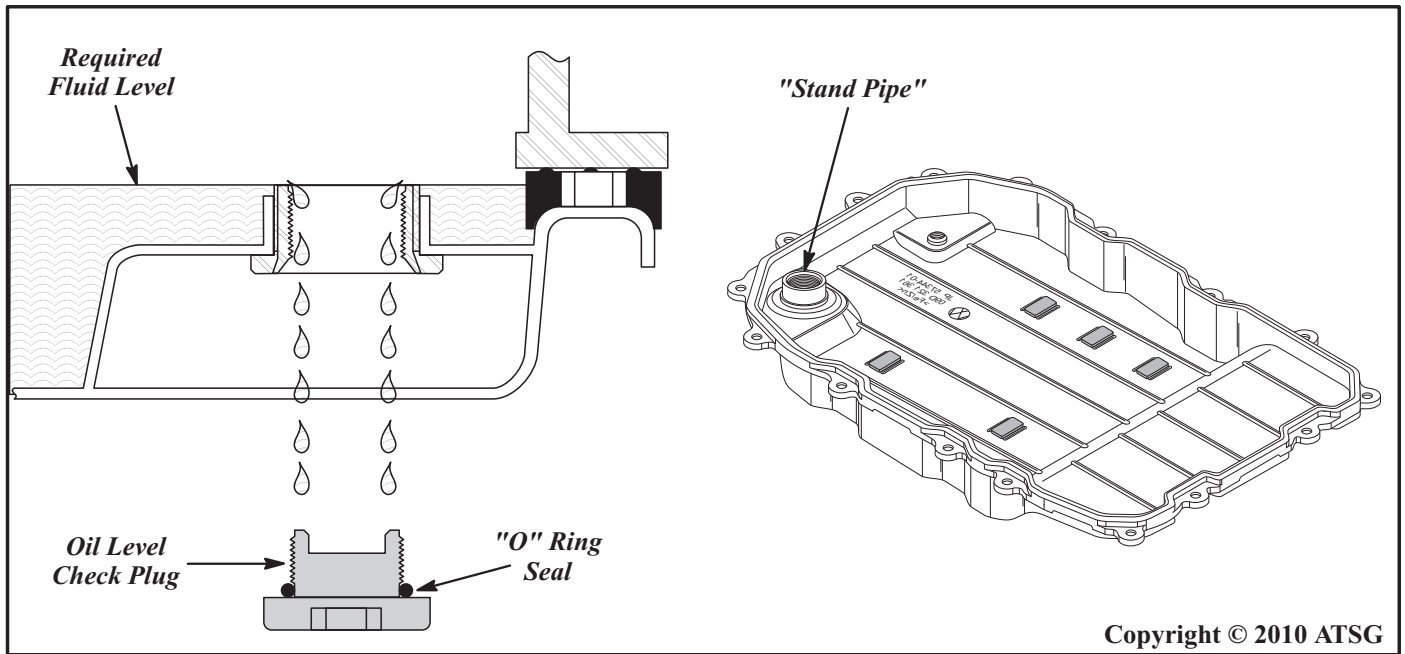

Figure 4
To "Check" for the correct fluid level, you must remove the "check" plug, which is located in the corner of the pan, and is removed with a 16 mm allen wrench, as shown in Figure 4 and 5.
We have provided you with a cut-away drawing of the bottom oil pan and the check plug so that you will understand how this system works. Notice that the oil pan actually has a "stand-pipe", as shown in Figure 4, that is stamped into and extends up above the pan rail, and is our way to establish the proper fluid level in the transmission.
- (A) Engine must be running and the manual shift lever placed in the Park position.
- (B) Transmission must be at operating temperature and parked on level surface.
- (C) By removing the "Check" plug from the oil pan, the fluid should just trickle over the "stand-pipe" and out through the center of the stand-pipe in the oil pan, as shown in Figure 4.
- (D) Always replace the "O" ring on the check plug and torque check plug to 28 N·m (20 ft.lb.)